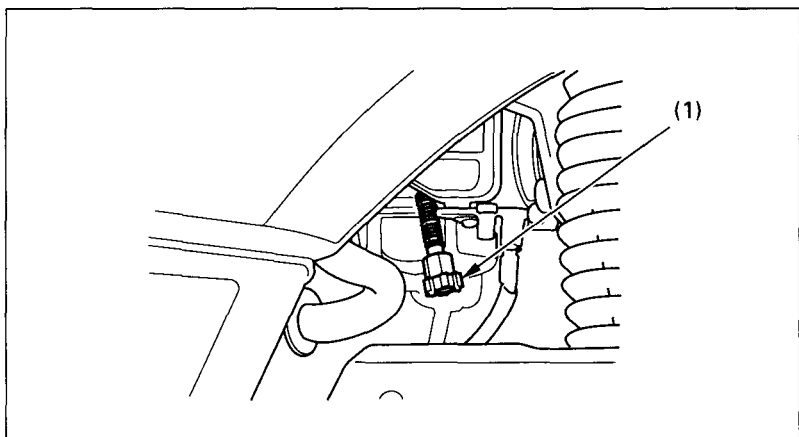

Fig. 4-8 (1) Throttle stop screw
2. Adjust idle speed by turning the throttle stop screw (Fig. 4-8).